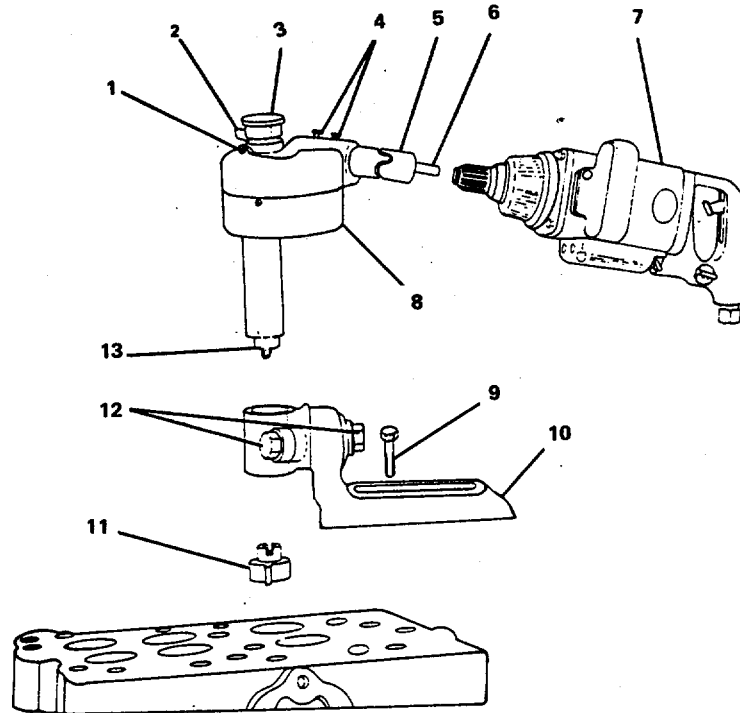
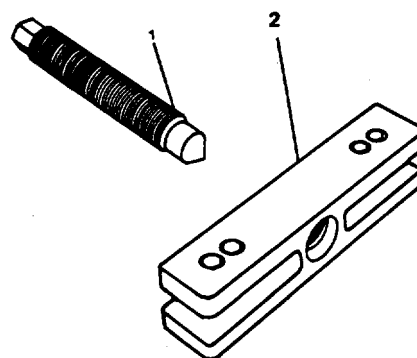

FIGURE 4-6. Removing the Arbor.
FIGURE 4-7. Arbor Alignment.
- (a) Install the arbor (1, FIGURE 4-6) into the valve stem guide. Put the adapter sleeve from the tool kit onto the arbor.
- (b) Loosen the clamp screws (4, FIGURE 4-7) for the swivel (1) and for the gear case.
- (c) Remove the gear case (8).
- (d) Install the base (10) and swivel onto the arbor and adapter sleeve.
- (e) Make sure the base (10) is flat against the cylinder head.
- (f) Use capscrew (9) to fasten the base (10) to the cylinder head. Do not tighten the capscrew.
- (3) Use a seat driver from the tool kit.
- (b) Install the driver over the arbor and adapter sleeve and through the swivel (FIGURE 4-7).
- (4) Adjust the position of the base (10) and swivel so the driver will move freely on the arbor.
- (a) Secure the capscrew (9) to hold the base (10) to the cylinder head.
- (5) Make sure the alignment is correct, then remove the driver. Use the T-handle arbor puller (2, FIGURE 4-6) and remove the arbor (1).
- (6) Apply lubricating oil to the arbor and the hole in the adapter sleeve.
- (a) Put the cutter (11, FIGURE 4-7) into position over the valve seat.
- (7) Install the gear case (8) into the swivel.
- (a) Engage the bottom of the drive shaft (13) with the top of the cutter (11). Make sure the drive shaft (13) is against the cutter (11).
- (b) Secure the clamp screws (12) to hold the gear case (8) and drive shaft (13) in the swivel.
- (8) To set the depth of the cutter:
- (a) Rotate the feed depth knob (3) counterclockwise four or five complete turns.
- (b) Put the new valve seat insert under the knob (3).
- (c) Turn the feed depth knob (3) clockwise until it is against the valve seat insert.
- (d) Turn the knob (3) counterclockwise until there is 0.006 to 0.010 inch (0.15 to 0.25 mm) clearance between the knob and the insert.